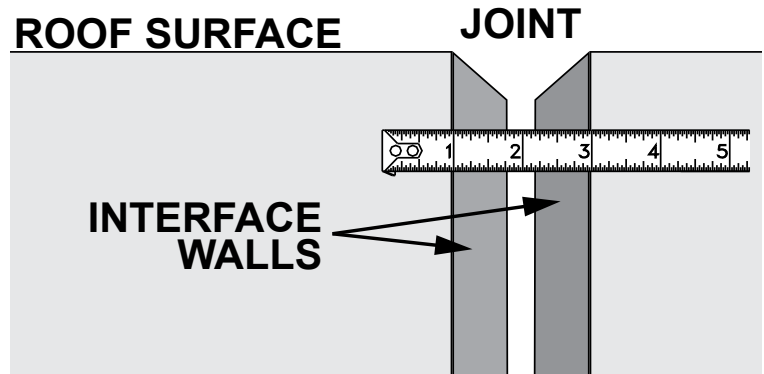

Figure 2—Measuring the Joint Size
4. Measure the joint opening and verify that you have the correct size for the joint system (Figure 2).